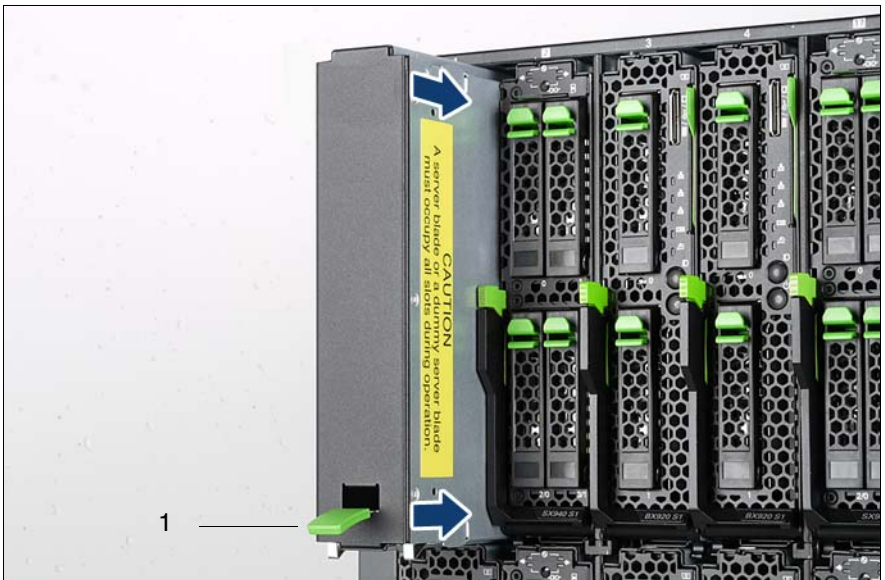

Figure 25: Installing a dummy server blade module
The handle (1) is movable and acts as a release lever. It must be at the bottom when you install the dummy module in the system unit (see figure 25 on page 89).